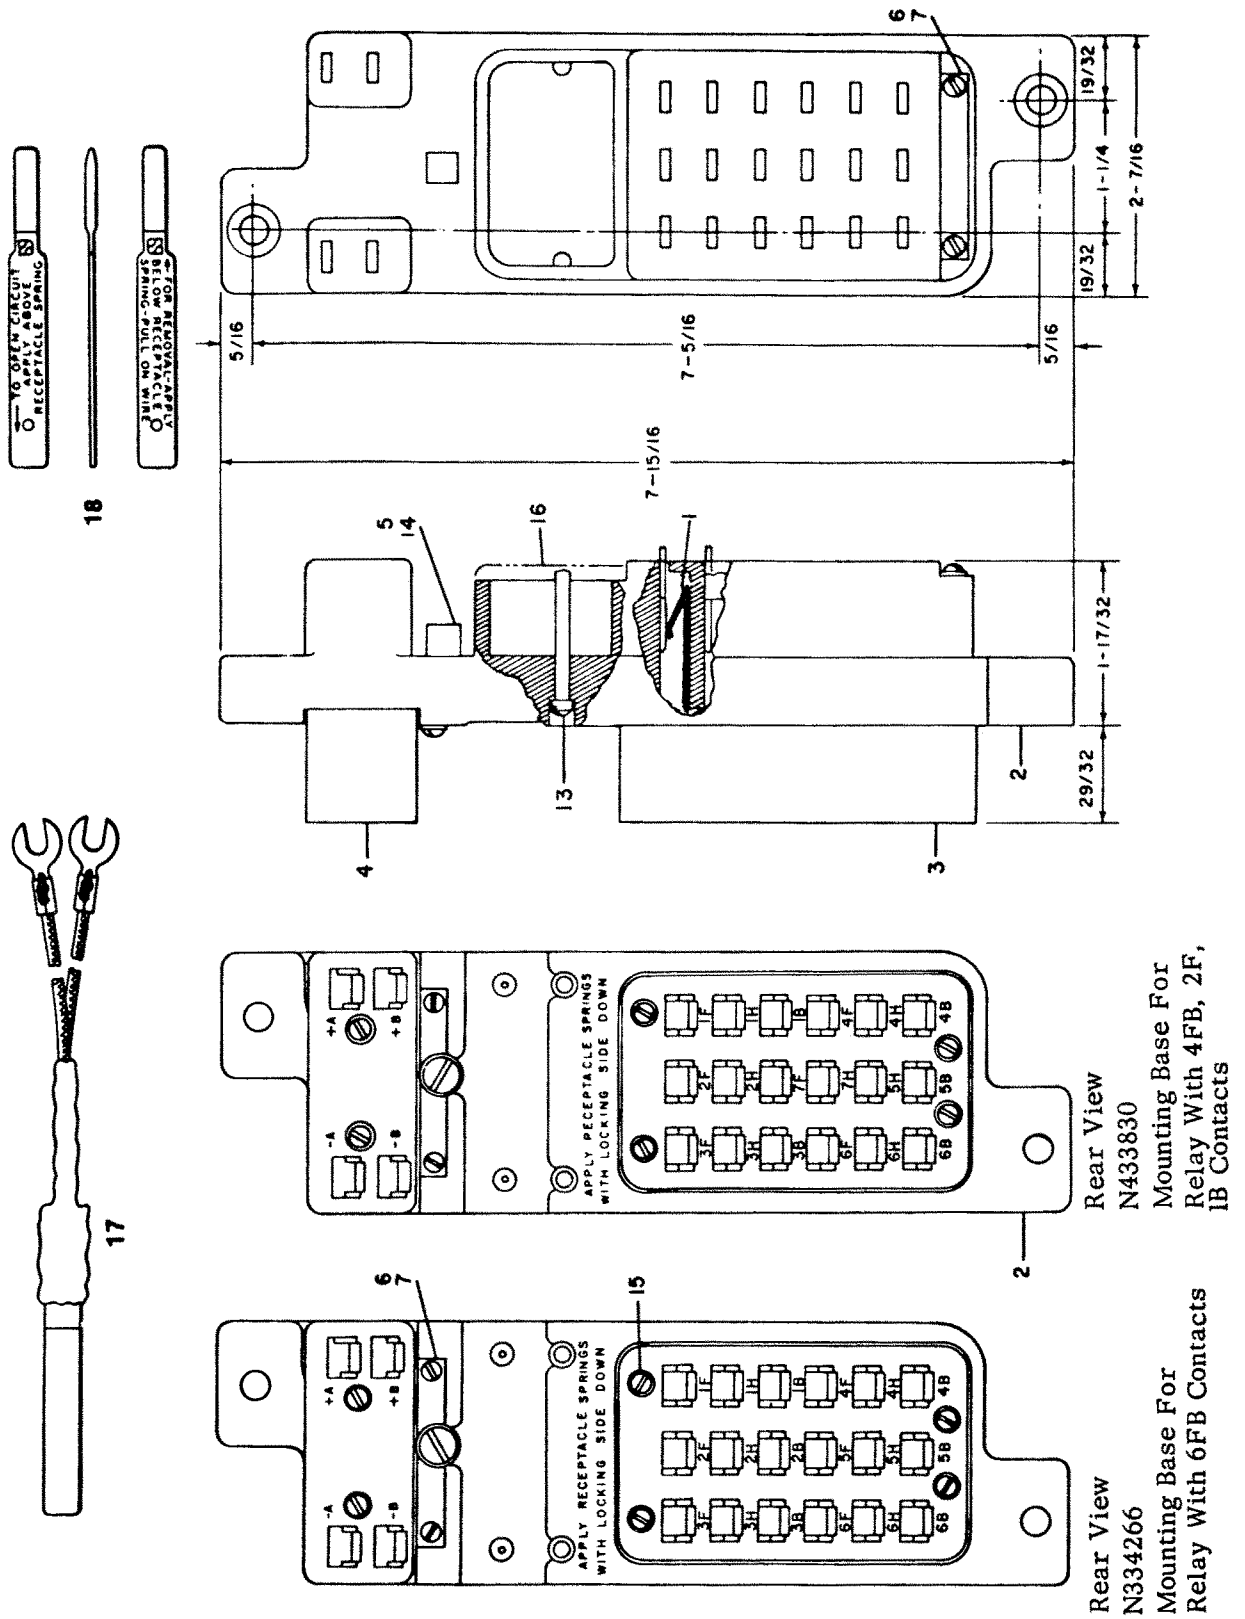

Figure A-2. Old-Style Mounting Base for PN-150B Relays
A.2 PARTS LIST FOR OLD-STYLE MOUNTING BASE FOR PN-150B RELAYS (FIGURE A-2)